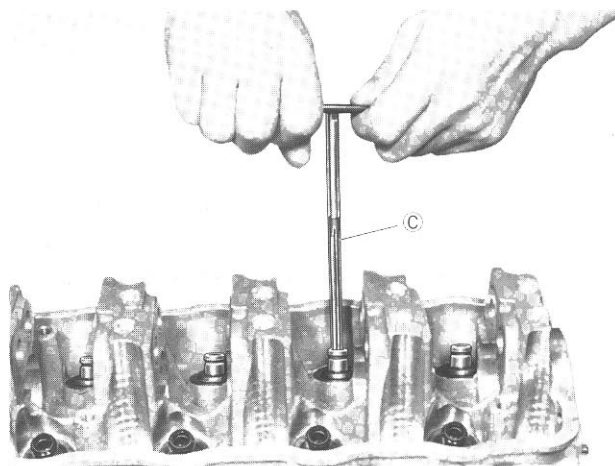

Fig. 3-61
- 3) Check all valve guides in place for I.D. and, if the I.D. reading compared with the stem diameter reading indicates too small a radial clearance, ream the guide I.D. with the reamer (C) (09916-34520), as shown in Fig. 3-61.